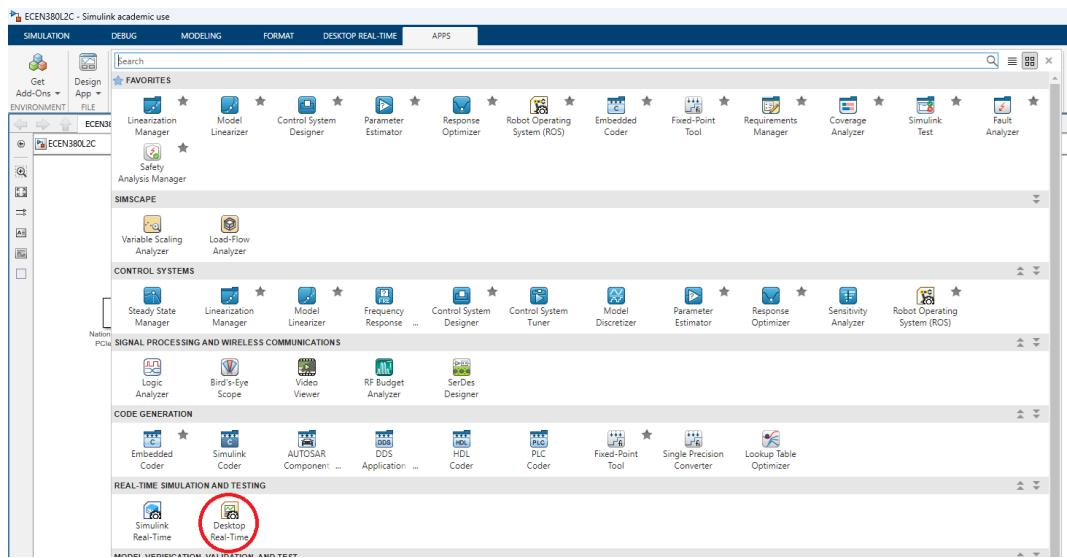

Figure 13 – Desktop Real-Time App
17. Click on the ‘Apps’ tab, and under the ‘Apps’ expandable toolbar, look for the `Real-Time Simulation and Testing` section, and click on `Desktop Real-Time` (see Figure 13); alternatively, you can search for the term “Desktop Real-Time”, and click on the result. This should create a new tab with the same name.